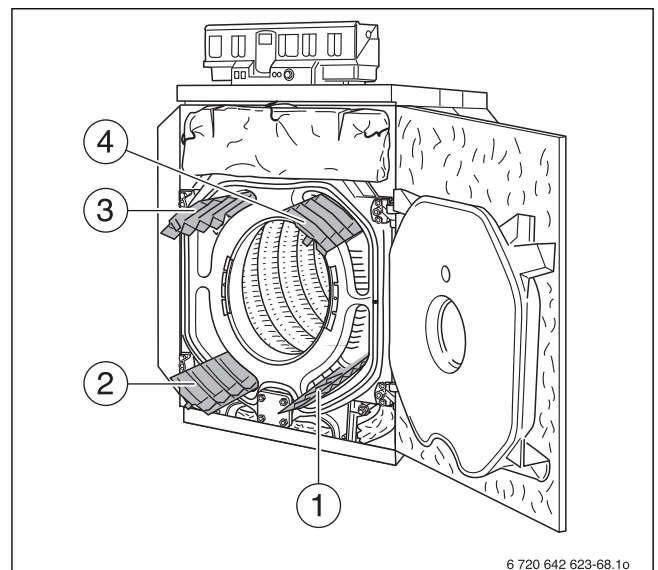

Fig. 72 Flue gas baffles, removing
- ▶ Remove the flue gas baffles from the flue gas passages (→ Fig. 72, [1 to 4]).